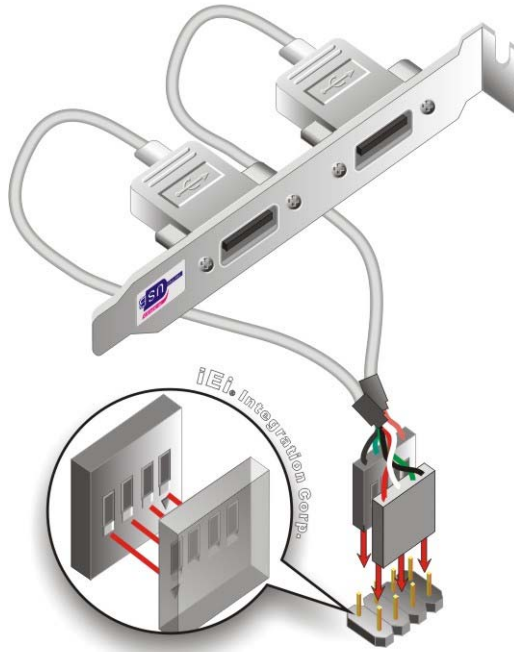

Figure 4-15: Dual USB Cable Connection
Step 3: **Insert the cable connectors.** Once the cable connectors are properly aligned with the USB connectors on the PCIE-Q870-i2, connect the cable connectors to the on-board connectors. See **Figure 4-15**.